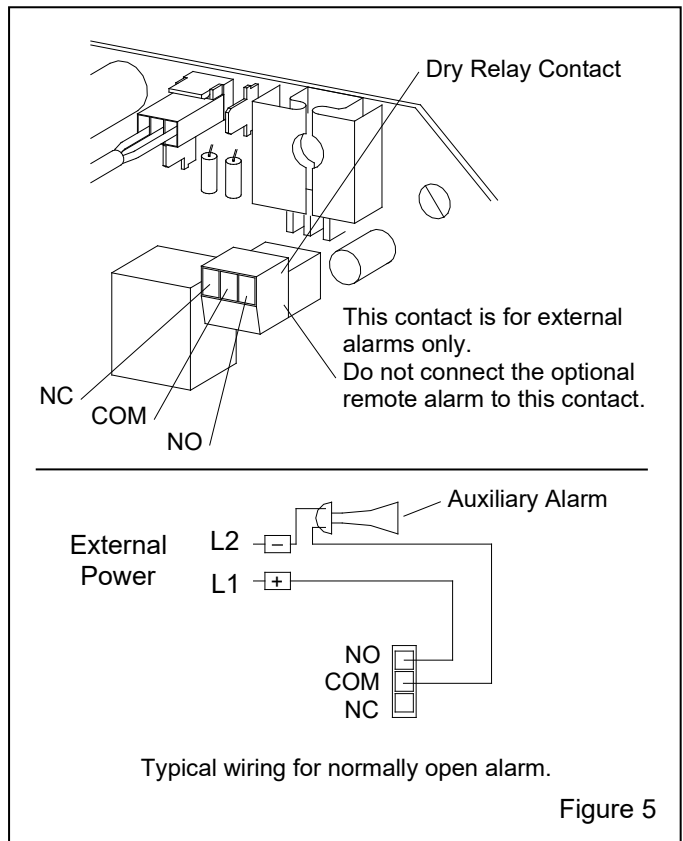

Figure 5
**2.6 Connecting an External Alarm and Shutdown Device – Figure 5**
**2.6.1** A dry relay contact, rated at 5 amperes, is mounted on the circuit board as shown in Figure 5. An electrician will use the contacts to operate relays for external alarms and shutdown devices.